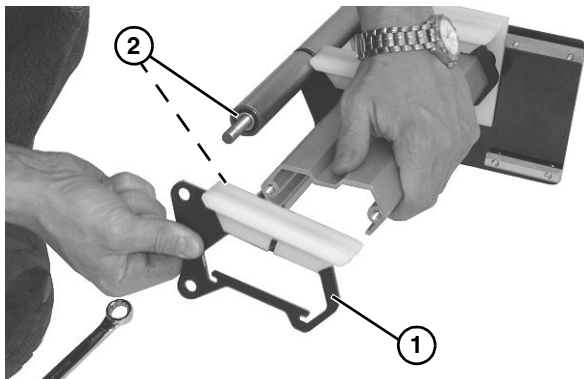

Figure 43
- Slide the support plate (**Figure 43, item 1**) off of both axle shafts.
- Remove washer (**Figure 43, item 2**) off of lower and upper axle shafts.